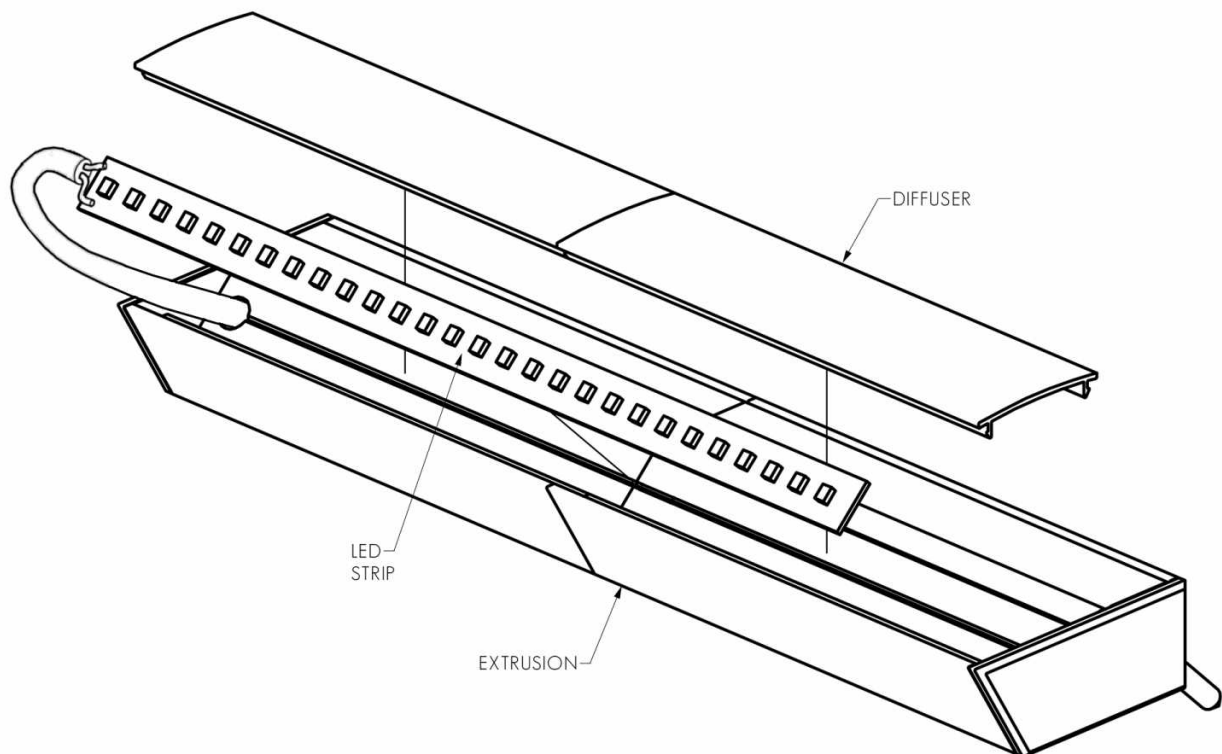

FIG. 2 - ENSURE DIFFUSER IS MOUNTED SECURELY
3. CLIP DIFFUSER INTO EXTRUSION, ENSURING A FIRM CONNECTION (SEE FIG. 2).